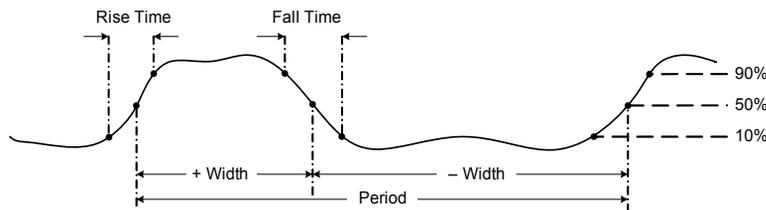

Figure 2-15 Definition of frequency
- Frequency is the number of cycles a signal completes each second. Frequency is defined as $1/\text{Period}$. Period is defined as the time between the middle threshold crossings of two consecutive, like-polarity edges, as shown in Figure 2-15.